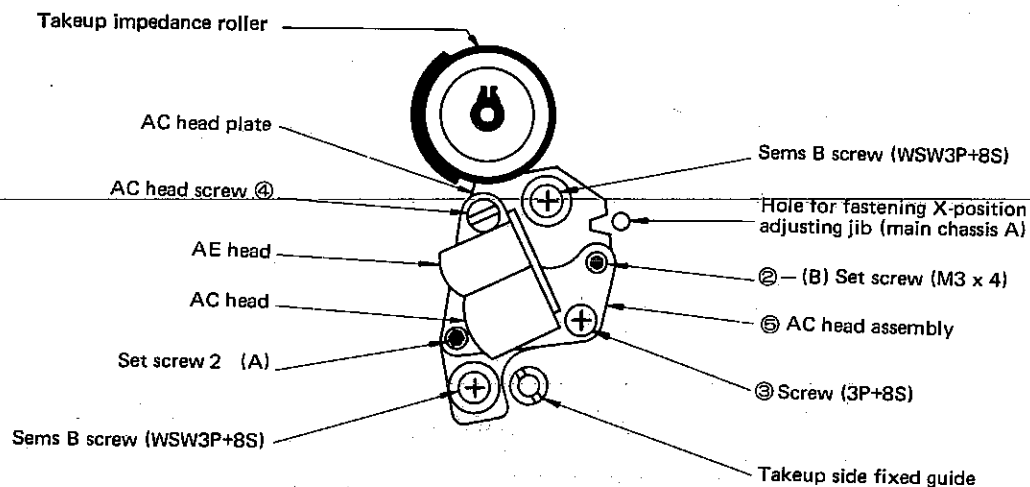

Figure 33.
1. If the tape does not travel properly, perform the following (see Figures 33 and 35).
7. Set the tracking control at its preset position. Loosen two serms B screws (WSW3P+8S) (see Figure 33) slightly and install the X-position adjusting jib at its hole.